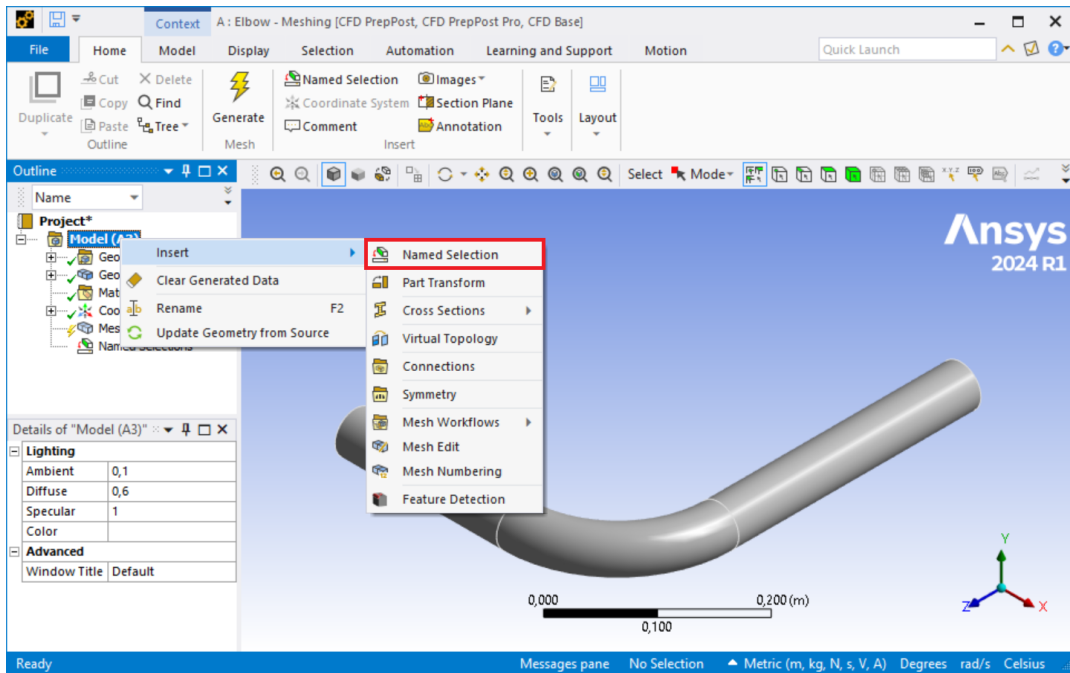

Figure 25: Inserting *Named Selection* into ANSYS Mesh.
- It is now appropriate, before proceeding with the actual generation of the grid, to appropriately name all the boundary surfaces of the domain - *patches* - thus facilitating the subsequent imposition of the boundary conditions. As shown in figure 25, right-click on *Model* → *Insert* → *Named Selection* in the top left tree.